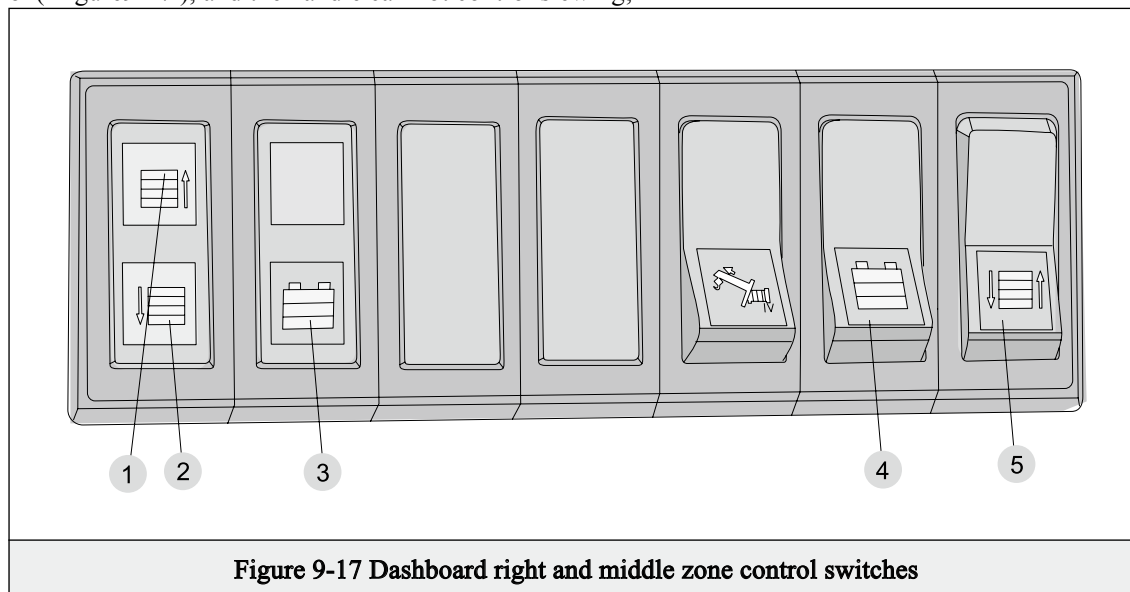

Figure 9-17 Dashboard right and middle zone control switches
4. Press the " Balance weight working condition selection switch " lower end (Figure9-17) on instrument panel, at this time the "Balance weight work condition selection " indicator lamp is brightly on(Figure9-17), and the handle can not control slewing;
7. Manipulate the "balance weight cylinder lift switch" on the remote control box, so that the balance weight cylinder is fully retracted, the lifting balance weight disengages with the frame. Confirm the plane of the suspension flexible balance weight mates firmly with the fixed balance weight lower surface, and lift the balance weight to the highest position, then the balance lifting limit indicator light goes on (Figure 9-17).